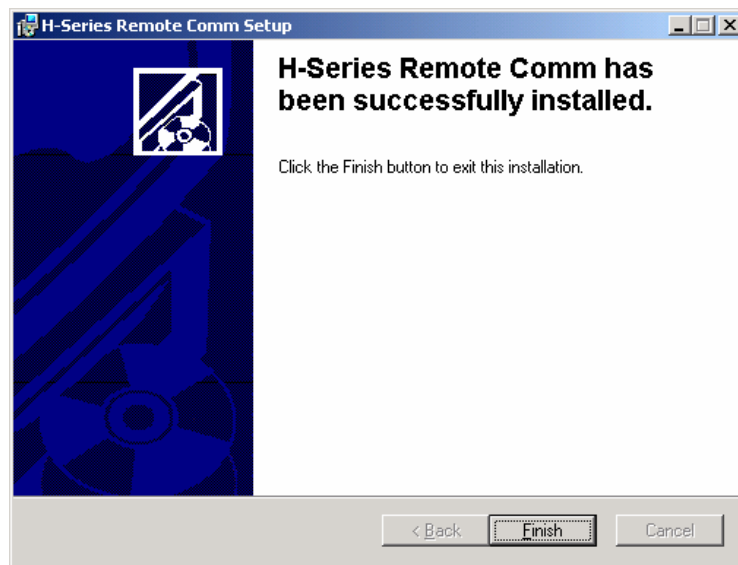

Figure 65 Installation Completed Screen
8. Click "Finish" when the installation is completed. (Refer to Figure 65.)